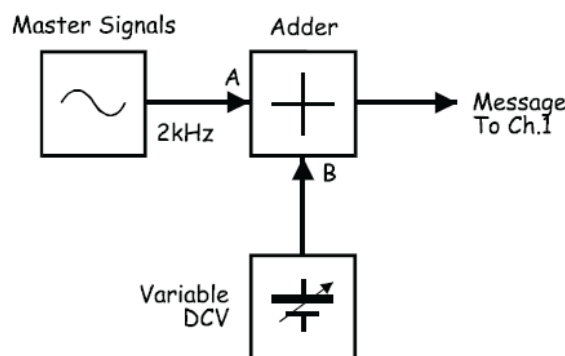

Figure 5.1 Adding DC to message signal
6. Connect the set-up shown in Figure 5.1 below.